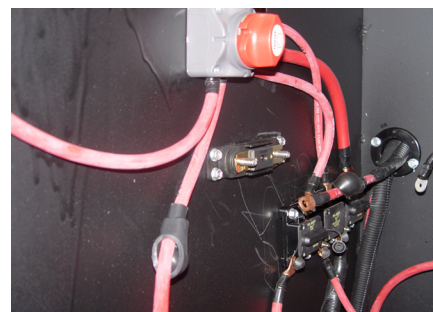

Figure 3
3. Locate the new 12 Volt fuse holder from the parts kit. Install the fuse holder below and to the rear side of the battery disconnect within 4-6". Secure the Fuse holder to the compartment bulkhead with four #14 X 1" self drilling screws. (Figure 3) Install one of the rubber boots in the box for the fuse holder one on each end of the battery cable that hooks to the fuse.